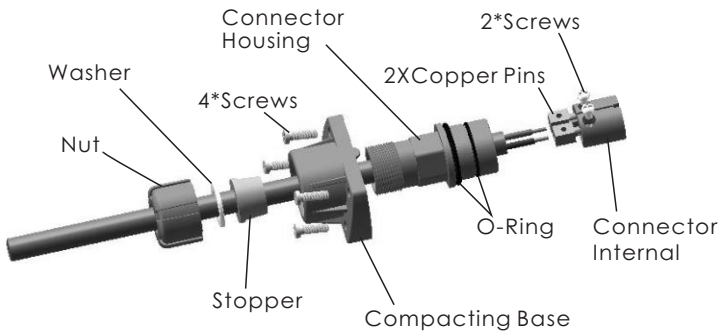

Figure 5
4) Assemble Retrofit connector. First, the cable thru Nut, Washer, Pressing Base in order (Attention: there are five sized stoppers), Connector Housing. Put Two sized O-Ring to Connector Housing. And insert two Copper Pins to Connector Internal, the power cable is thrued Copper Pins and hold it tight by the screws. Pull the cable back and Tighten Nut, the front face is kepted the frush for Connector Housing and Connector Internal. Figure 5